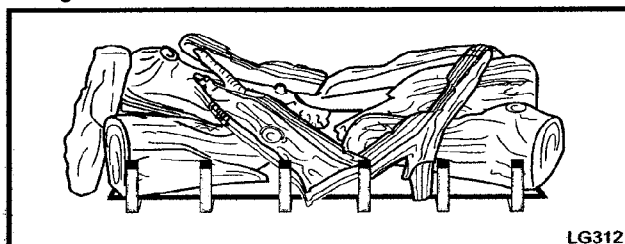

Fig. 13 NVSTR36/NVCVR36 log placement.
5. Place the four top logs onto the front and rear logs as shown in Figure 13. Ensure that the logs are secure on the tabs located on the front and rear logs.